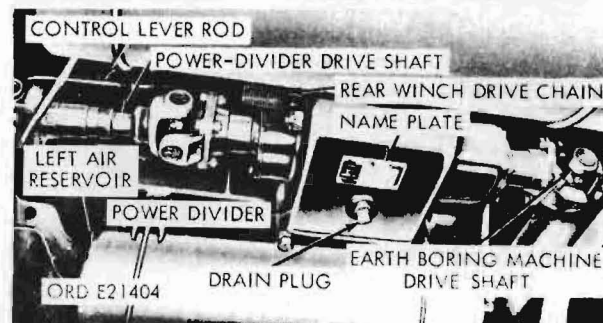

Figure 158. Power-divider installed - bottom view
g. Power-divider. A power-divider (fig. 158), mounted on the truck frame, beneath the V-18A/MTQ rear winch, transfers power from the transfer power takeoff to either the rear winch or the earth boring machine. The power-divider control lever (fig. 96) controls output of the power-divider. With the lever in the NEUTRAL position, the power-divider is disengaged from both the rear winch and boring machine. In EARTH AUGER position, the power is transmitted to the boring machine. The rear winch can be run in either forward or reverse direction, depending on positioning